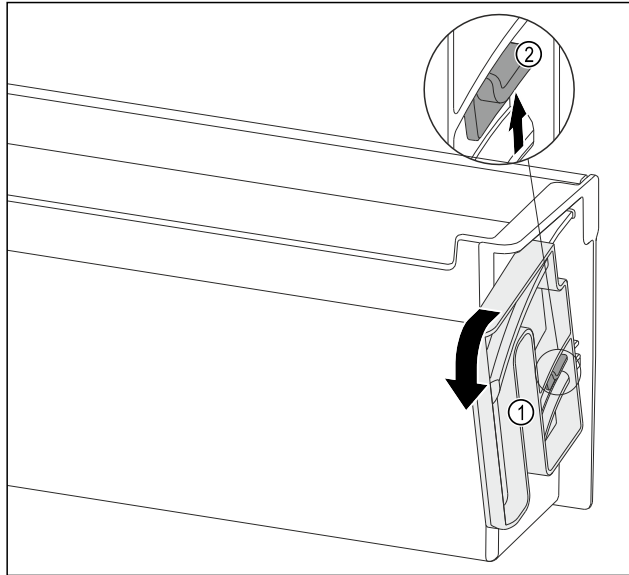

Fig. 120
- Turn the swivel unit Fig. 120 (1) in the specified direction as far as it goes.
- Push the tab Fig. 120 (2) up and remove the swivel unit Fig. 120 (1).